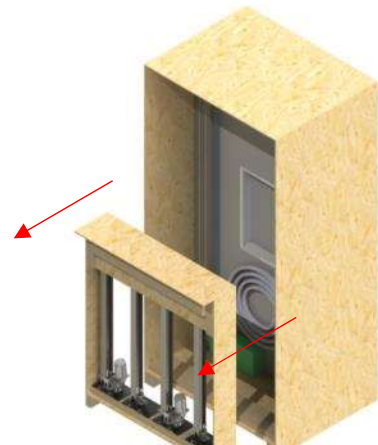

Figure 37
- 11) With the help of another person, remove the jack box from the crate and place it in a safe place. (Figure 37)